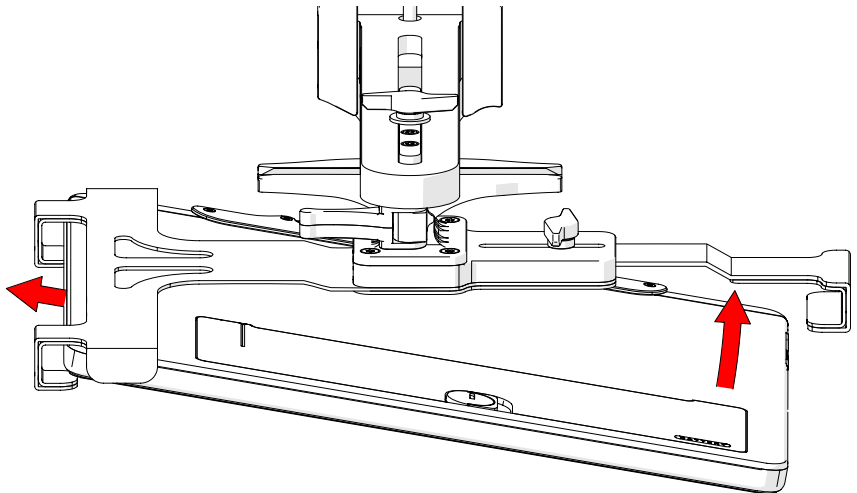

Fig. 48 - Place detector within the tabs of the detector holder
2. Position the detector within the tabs of the detector bracket (Fig. 48).